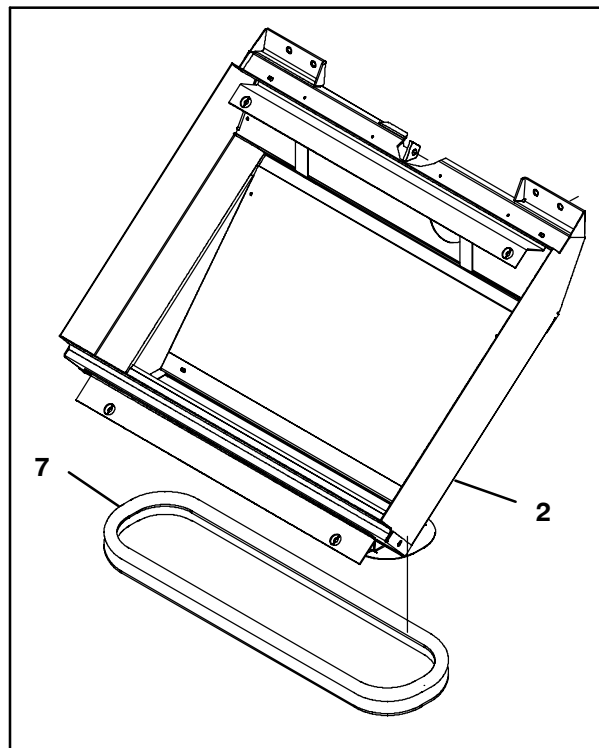

FIG. 1
1. Apply a coat of adhesive onto the lip seal (7) and install the lip seal into the filterbox weldment (2). Refer to old filterbox weldment and Fig. 1 for location of the lip seal.